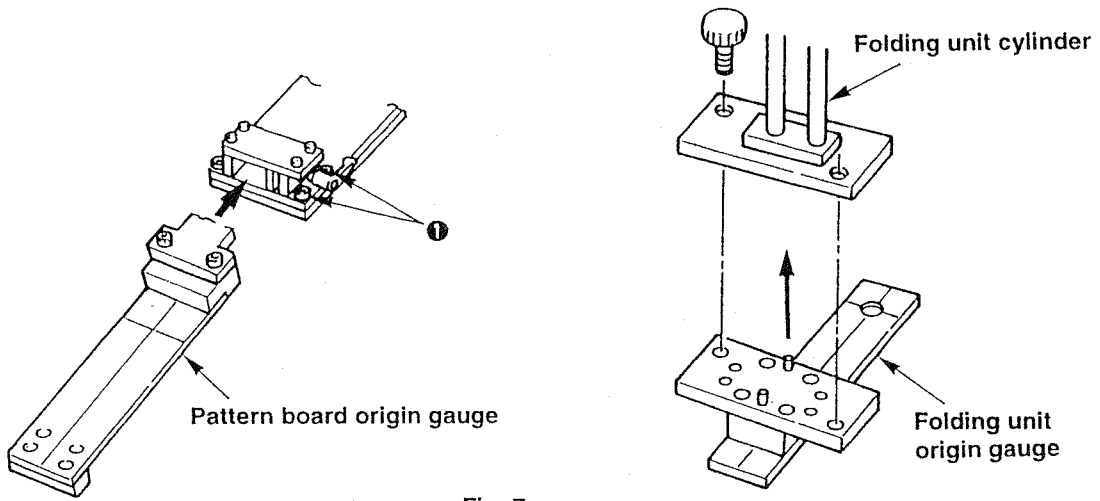
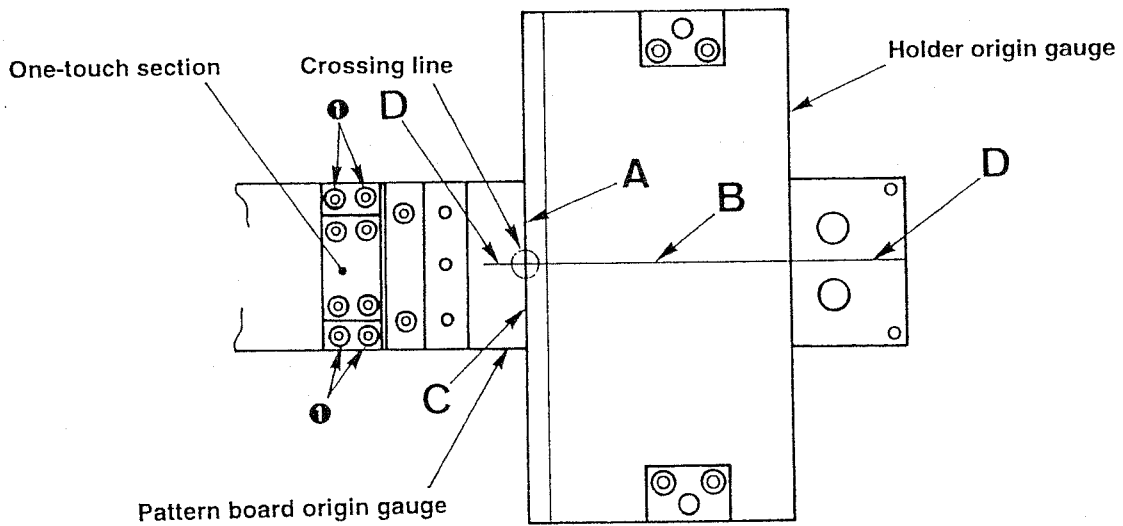

Fig. 7
Fig. 8
<p>1) Attach the pattern board origin gauge and the folding unit gauge under the pattern replacement () mode. (Fig. 7)</p> <p>2) Bring the holder origin gauge on the pattern board origin gauge under the folding position adjustment mode (). (Fig. 8)</p> <p>(Note) The folding position adjustment mode should be set to X=0 and Y=0.</p> <p>3) Loosen screw ❶, and determine the position of the one-touch section so that crossing lines A and B on the holder origin gauge are aligned with crossing lines C and D on the pattern board origin gauge. (Fig. 8)</p> <p>4) Enter to the step mode (), and bring the folding unit to the lowering position.</p> <p>5) Loosen screw ❶, and determine the position of the folding unit installing plate so that crossing lines A and B on the folding unit origin gauge are aligned with crossing lines C and D on the pattern board origin gauge. (Fig. 9)</p> <p>6) Turn OFF the power to the machine.</p>	<p>Pocket folding will not be done correctly, and the edge widths will not be uniform.</p>